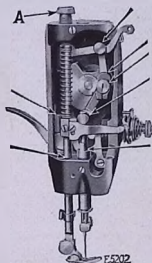

FIG. 29. END VIEW, SHOWING OILING POINTS
For ordinary family sewing, it is seldom necessary to change the pressure on the material. If sewing fine silk or flimsy material, lighten the pressure by turning the thumb screw (A, Fig. 29, page 29) on the top of the machine over to the left. To increase the pressure, turn this thumb screw over to the right. The pressure should be only heavy enough to prevent the material from rising with the needle and to enable the feed to move the work along evenly; a heavier pressure will make the machine run hard.
near the upper end of the face plate, then raise the plate and slip it off over the head of the screw (A). Put one drop of oil into each of the holes and joints thus uncovered, as shown in Fig. 29.